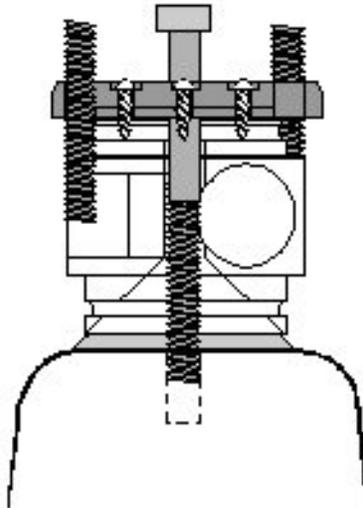

Figure 3
- b. Utilizing the 5/16" x 3" Anchor Bolt and the Fabrication Kit (FAB 946), attach the ALPS Lock body to the Alignment Cone. (figure 3)